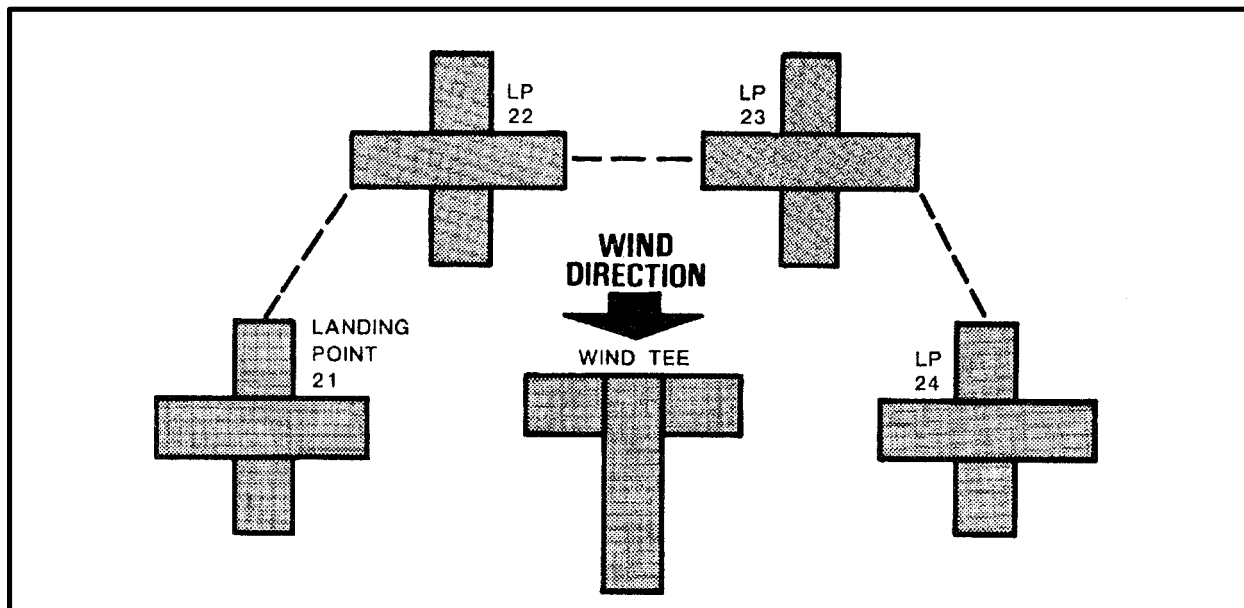

Figure 4-10. Daylight Landing Site Markings (USMC)
**b. USMC Markings.** When using marker panels to identify landing sites, the panels must correspond to the color name of the landing site. If a wind sock is used, position it securely in the center of the landing site. Landing points are indicated by placing the corresponding colored marker panels in the form of a cross on the landing point (Figure 4-10). Smoke may also be used to identify landing points.